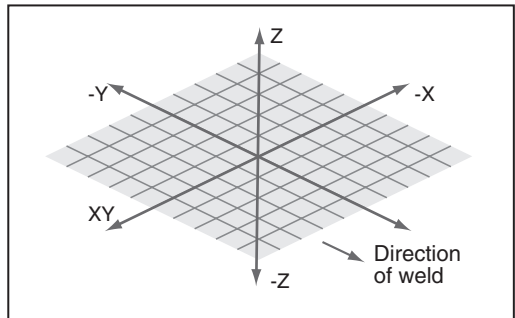

FIG. 12
8.5 DIRECTION OF WELD – FIG.12